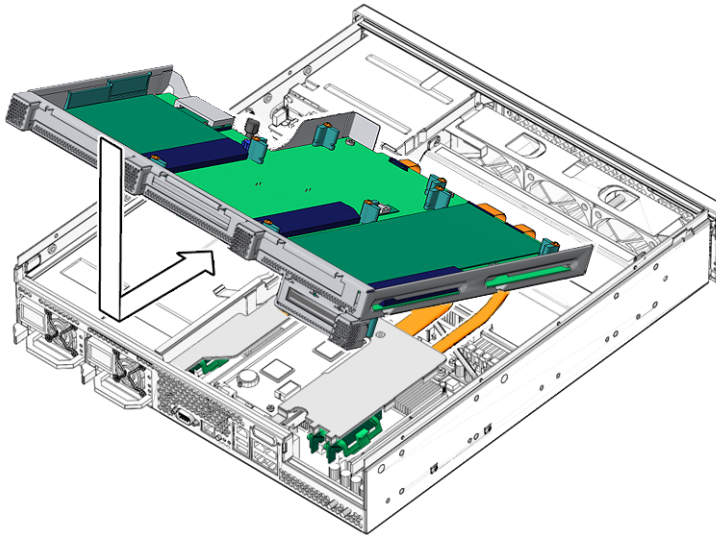

FIGURE 6-3 Lowering the PCI Tray
4. Lower the PCI tray and slide it forward (FIGURE 6-3).